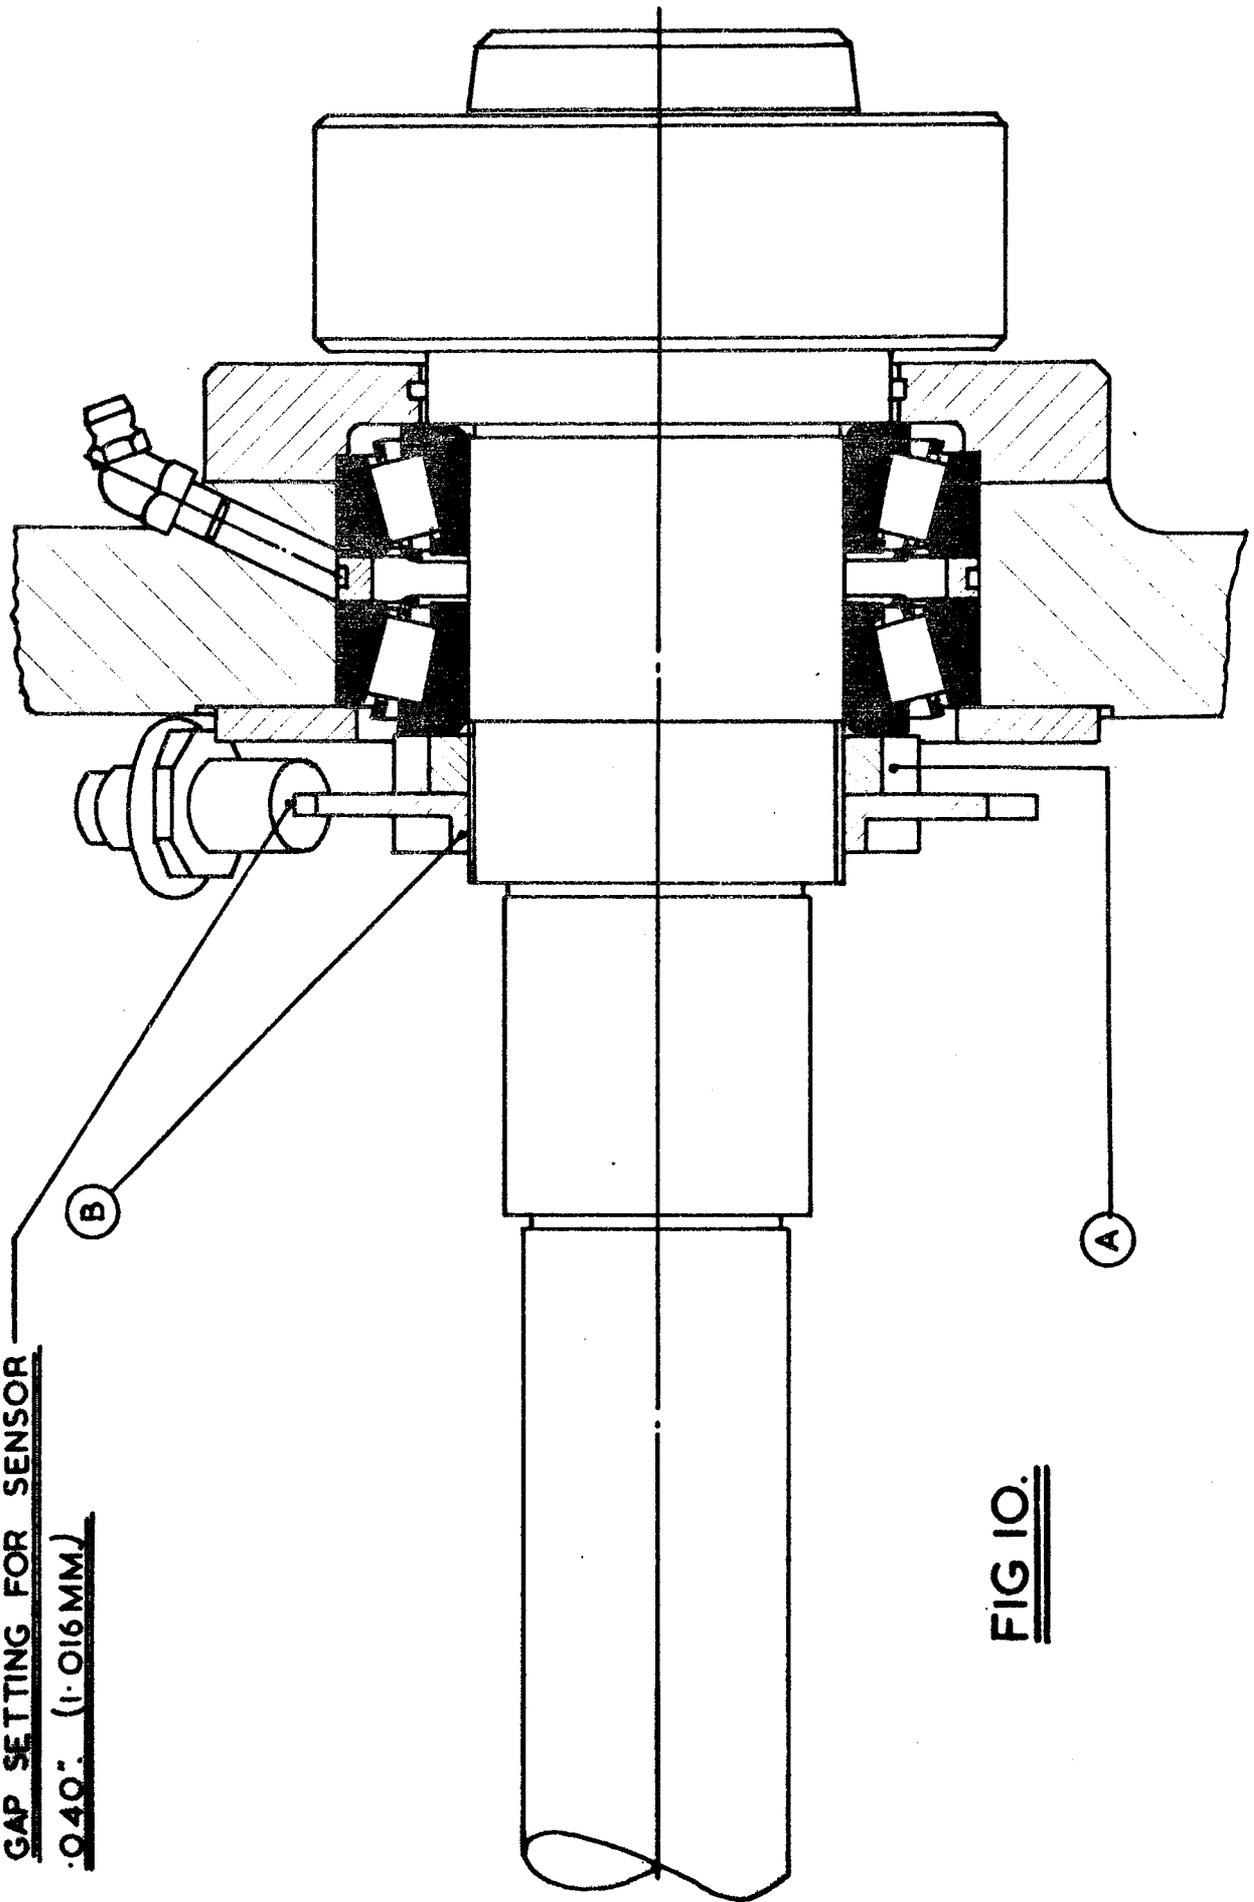

FIG 10.
The taper roller main bearings have been correctly adjusted and pre-loaded on assembly and should not require any attention provided the initial setting is not disturbed. To adjust the pre-load, slacken off the lock nut on the spindle (A) Fig.10 and adjust the pre-load by turning the transducer gear (B) in small increments. NOTE THE THREAD IS LEFT HAND After each tightening of the transducer gear (B) check that the pre-load is not excessive. The machine should run at top speed and the bearings should not exceed 65°C (150°F).